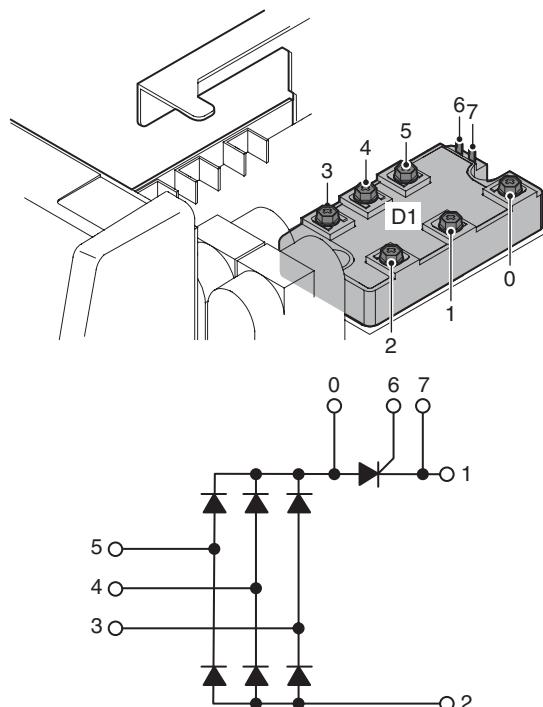

Figure 6-14: Tester checkpoints for D1 showing the interconnection diagrams
- 2) Refer to Table 6-5 and Figure 6-14 for the checkpoints on D1.